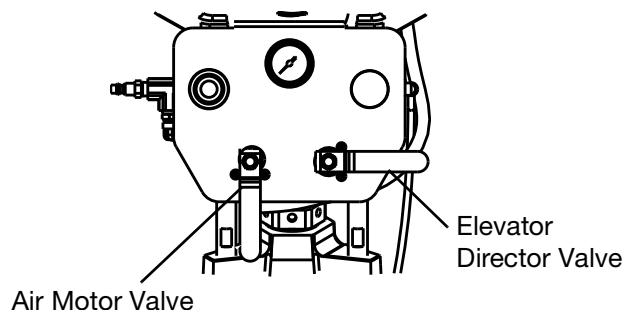

FIG. 4
3. **For L20c Air Controls:** See FIG. 4.
- a. Close the bleed type air motor valve and the elevator director valve. The ram will slowly drop. See FIG. 4.